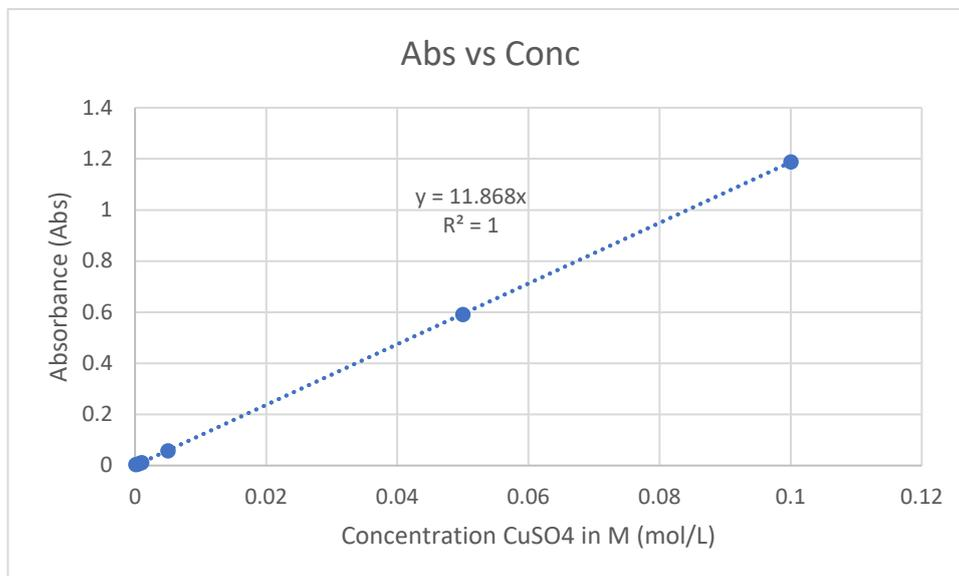

Figure 3: preliminary Calibration Curve
As mentioned in section 2.4, a fitted linear regression curve should be used for data obtained from UV-Vis measurements. Figure 3 shows the calibration curve when measuring the absorbance of different concentrated CuSO_4 solutions at wavelength 800 nm. y is the absorbance (A) measured with the UV-vis Spectrophotometer and x is the concentration of the species (C), here the concentration of copper sulfate. The linear fit for the presented datapoints for calibration provides the following equation: